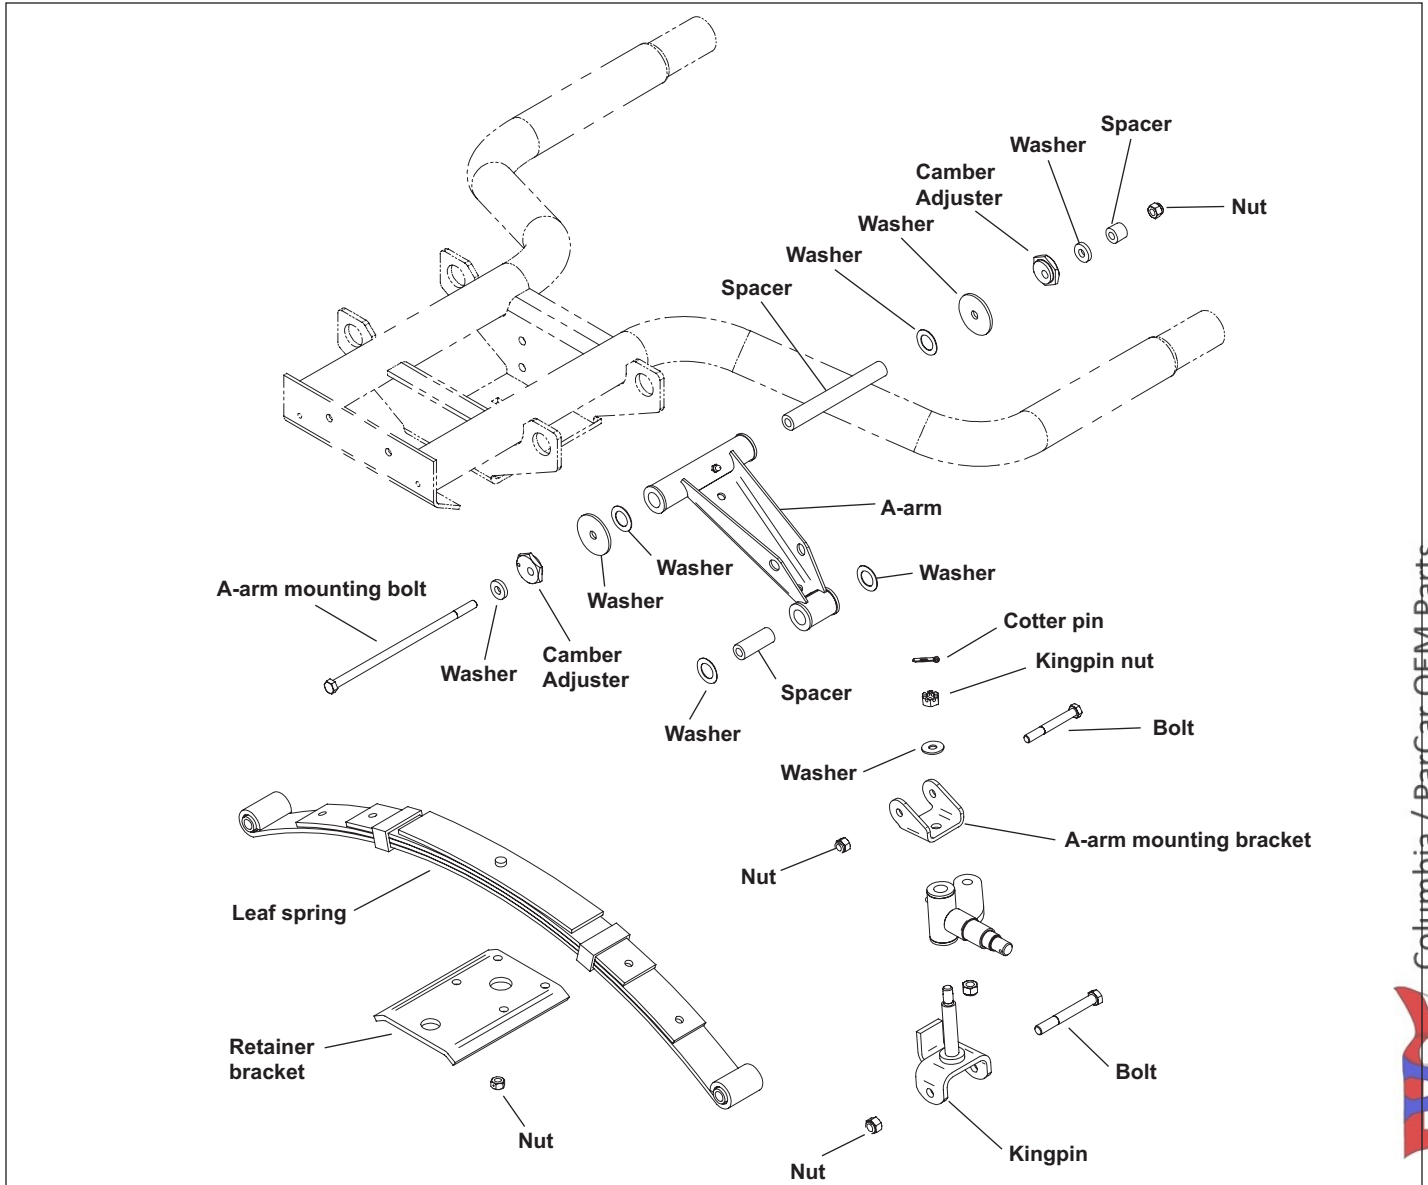

Figure 6-12. Kingpin, A-arm and Steering Arm Assembly
- Remove bolts and nuts securing kingpins to leaf spring (Figure 6-12).
Refer to Figure 6-12 for the following steps.
- Remove cotter pin, kingpin nut and washer securing kingpin to A-arm bracket and remove kingpin and steering arm (Figure 6-12). Discard cotter pin and kingpin nut.
3. If wheel is not vertical, loosen A-arm mounting bolt (Figure 6-12). Rotate both camber adjusters equally until wheel is straight up and down.
4. When correct adjustment is obtained, torque A-arm mounting bolt (Figure 6-12) to 25 ft. lbs. (3.5 Kgm).